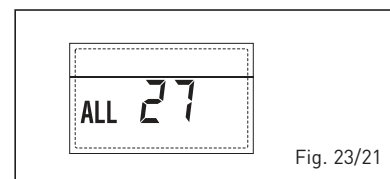

Fig. 23/21
– **ANOMALIE COHERENCE ENTREE (S3) SEULEMENT POUR SYSTEME 7 “ALL 28”** (fig. 23/22)